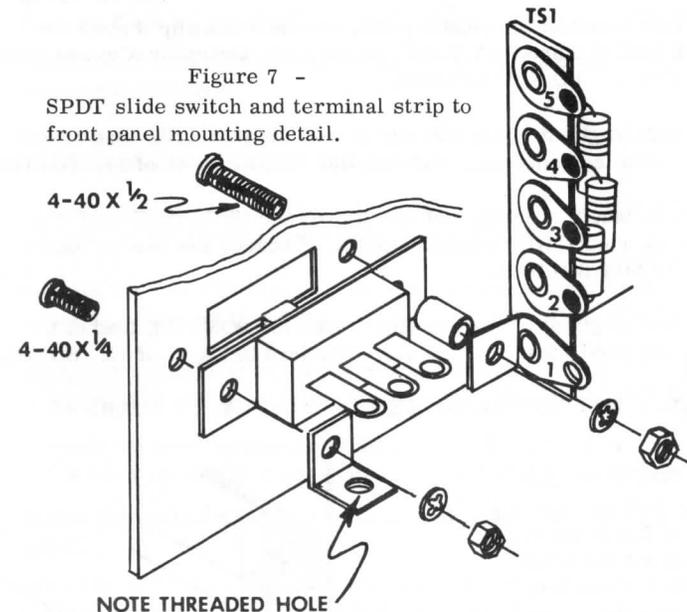

Figure 7 -
- ( ) Using one 4-40 X 1/4 inch machine screw, one #4 lockwasher, one 4-40 X 1/2 inch machine screw, one "L" bracket, one 5/16 inch spacer and two 4-40 nuts mount the SPDT slide switch S2 along with terminal strip TS-1 to the front panel as shown in detail drawing figure 7.